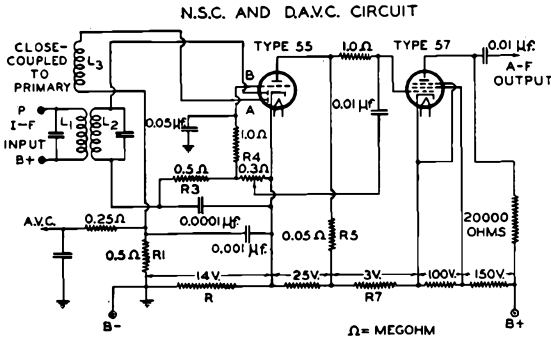

Fig. 24
Fig. 24 shows a circuit employing the 55 and 57 arranged to take advantage of the combined features of diode detection, d.a.v.c., and n.s.c. The diodes, A and B, of the 55 are employed to secure these effects. Diode A is the d.a.v.c. unit; diode B is the detector. The triode is the n.s.c. unit. When a carrier signal is applied across the input transformer, plate current flows from diode A through R and  $R_1$  back to A. The bleeder resistor (R) provides a negative bias of 14 volts to A in order to obtain delayed a.v.c. A.v.c. voltage is obtained across  $R_1$  when the peak signal is slightly greater than 14 volts. At the same time, B also passes plate current which causes a drop through the diode-load resistors ( $R_3$  and  $R_4$ ) to provide negative d-c bias for the 55 triode and a-f voltage for the 57 a-f amplifier. Under signal conditions, the 55 triode is biased to cut-off. No current flows through load resistor  $R_5$  so that the 57 operates at maximum plate current—limited of course by the minimum bias supplied by the bleeder  $R_7$ . Under this condition, the 57 amplifies the a-f voltage from diode B and passes it on to the audio-frequency stages.
To obtain this, the a.v.c. tube and the n.s.c. tube must be controlled by signal voltages obtained from separate inputs, and for a small amount of detuning, the signal actuating the n.s.c. tube must be reduced more sharply than that supplying the a.v.c. tube. One convenient method is shown in Fig. 24. The overall selectivity at the secondary ( $L_2$ ) of the input transformer is greater than at the secondary ( $L_3$ ), so that, when detuning, the signal on diode B is reduced to a greater extent than the signal on diode A. The selectivity of the secondary ( $L_3$ ) is less than that of  $L_2$  because  $L_3$  is more closely coupled to the primary ( $L_1$ ). This arrangement can be utilized to provide the desired suppression appreciably before the a.v.c. action increases the receiver sensitivity to maximum.